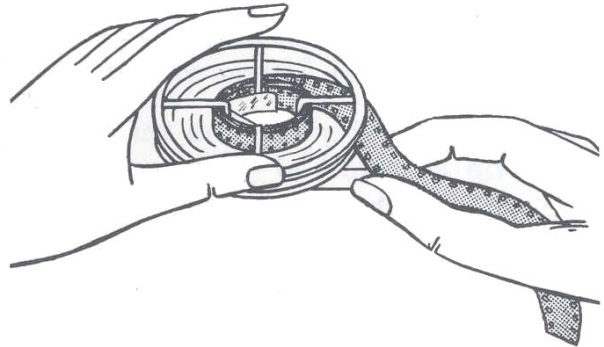

Figure 2
4. Slowly turn the reel with the left hand, leaving the reel flat on table, and retaining the 30° to 45° entering angle of the film with the right hand. The film will wind onto the reel and will right itself into a vertical position inside the reel, as in Fig 2.